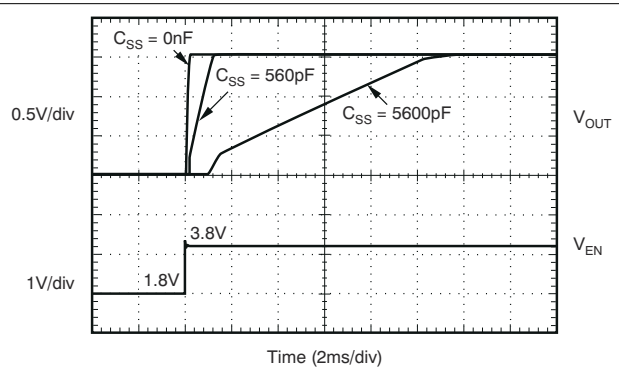

图 8-6. Turn-On Response
3. Select a minimum of a 2.2- μ F ceramic output capacitor. Increased output capacitance helps the output load transient response. 图 8-6 gives examples of the load transient response with different output capacitor values and types.